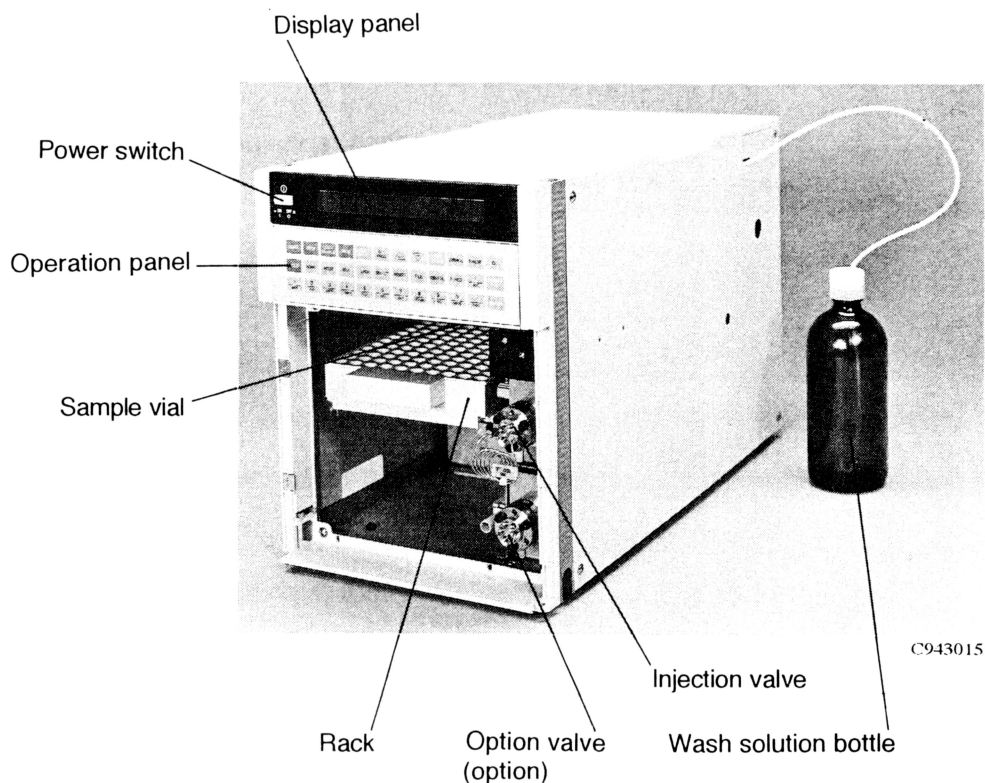

Figure 3-1 Configuration of the L-7250 Autosampler
Figure 3-1 shows the configuration of the L-7250 Autosampler. Samples to be analyzed are in a rack inside a chamber. The chamber also includes the sampling arm. The sampling arm has a syringe to allow aspiration of the samples. You can move the arm along the transverse axis (X), the longitudinal axis (Y), and the vertical axis (Z). The injection valve places the samples into the mobile phase flow path. You can choose syringes with a delivery volume of 0.1, 0.5 ml, 1 ml, 2.5 ml and 5 ml. You can set the analytical conditions via the keypad. The display panel presents information about the operational status of the system.